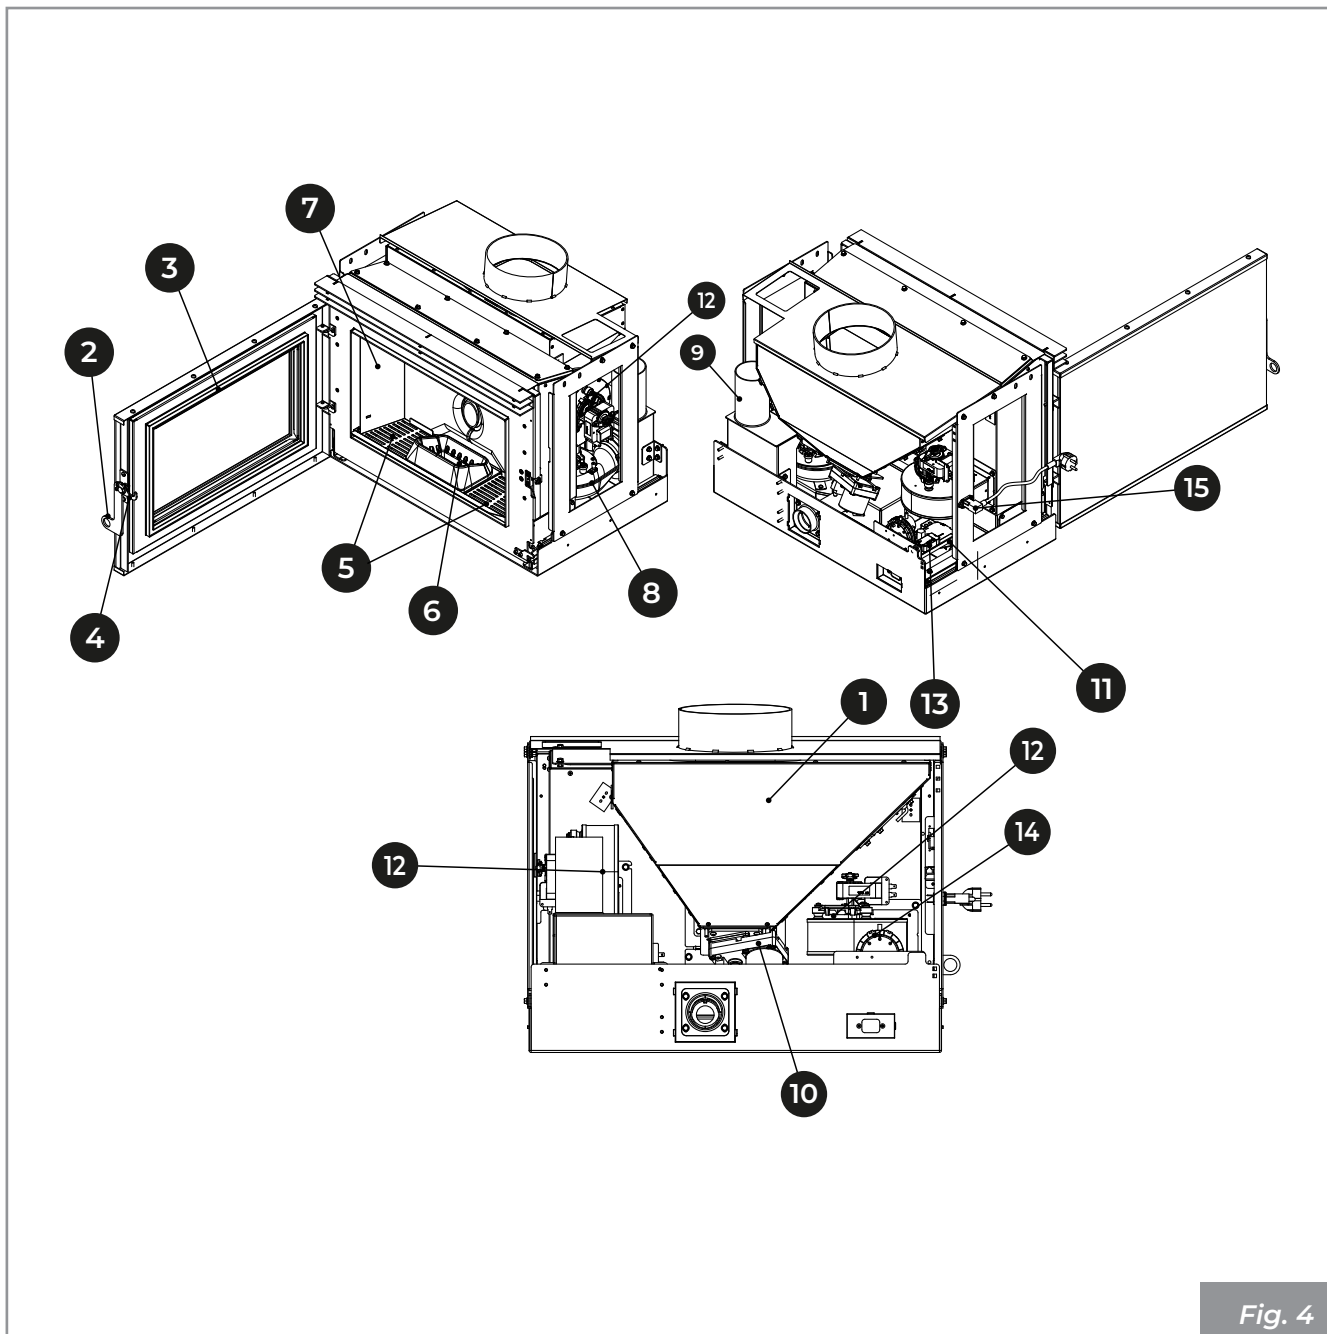

Fig. 4
This operation activates a safety micro switch (13) that switches off the power supply. (Fig. 4) the power cord must be connected to the mains.